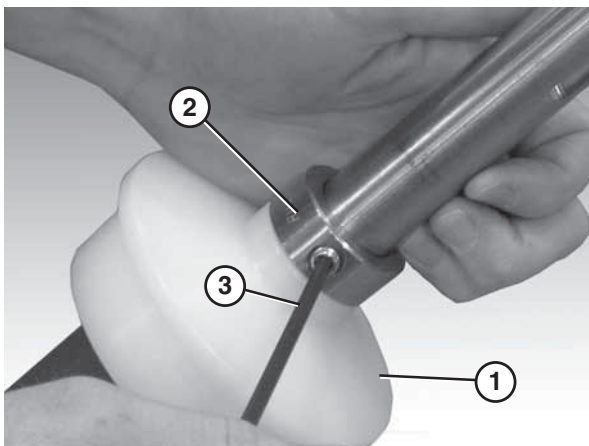

Figure 75
3. Slide the second flanged puck (**Figure 75, item 1**) and the retaining ring (**Figure 75, item 2**) onto the drive spindle.
4. Tighten the retainer ring fastener (**Figure 75, item 3**) using a hex wrench.